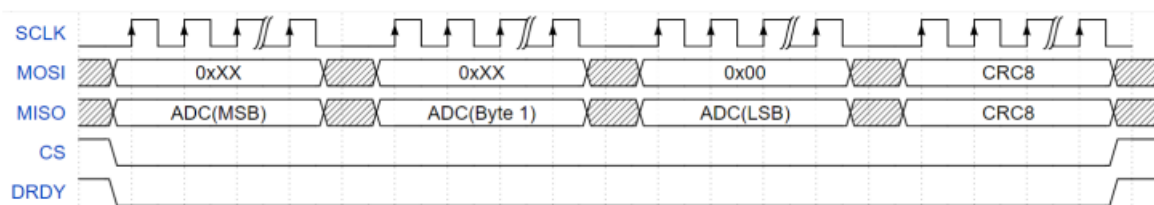

Figure 3.
*Note: Each clock in Figure 3. represents 8-bits.